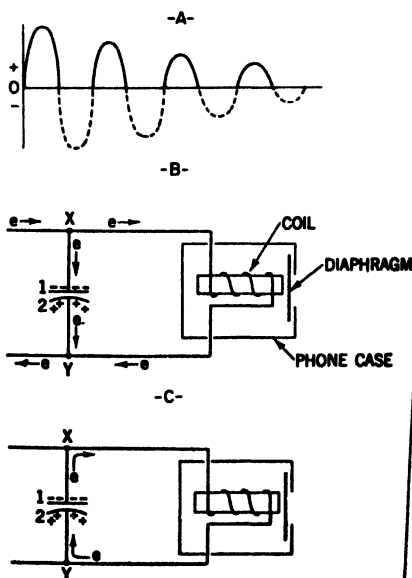

**Fig. 13-2.** Diagram showing crystal detector and phones substituted for the loop of wire.
**The Crystal Detector and Phones in a Parallel Circuit.** Now substitute the crystal detector and the phones for the loop of wire (Fig. 13-2). Electrons then tend to flow through the detector and phones in step with the flow of electrons in the tuning circuit.